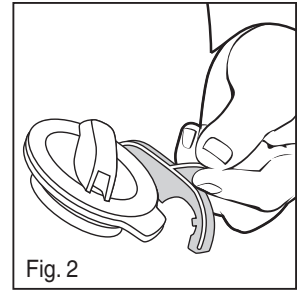

Fig. 2
- 2) Use handle release to lower handle flat onto floor (Fig. 2).
- 2) Turn height adjustment knob to bare floor position (Fig. 2).
- 2) Lift tube latch (Fig. 2).
- 6) Close tube latch (Fig. 2).